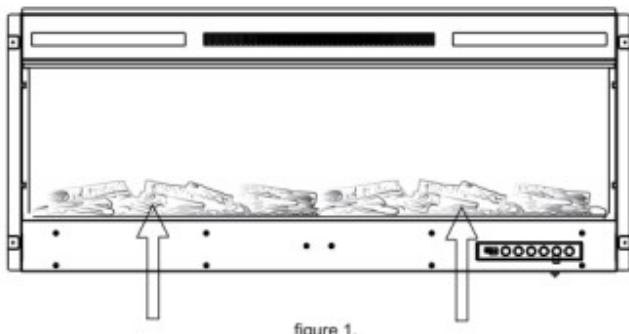

figure 1.
- B. If your fireplace comes with logset, remove the logset from the package, put it to the fireplace designed place. Figure 1.